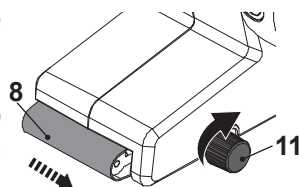

Fig. 4
3. Whilst the sanding belt is running, adjust the tracking adjustment knob (7) to align the sanding belt to the centre of the rollers (10, 12).
4. Turn the tracking adjustment knob (7) clockwise to adjust the sanding belt (8) to the left (as seen from operator's perspective) (Fig. 4).